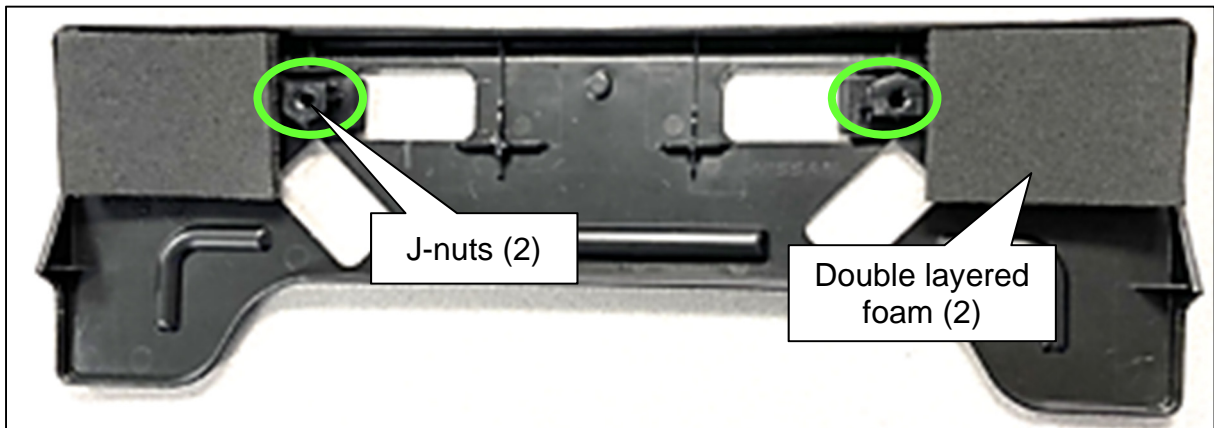

Figure 6
5. Install the J-nuts, and then place the two (2) pieces of double layered foam on the top corners of the license plate bracket, as shown in Figure 6.